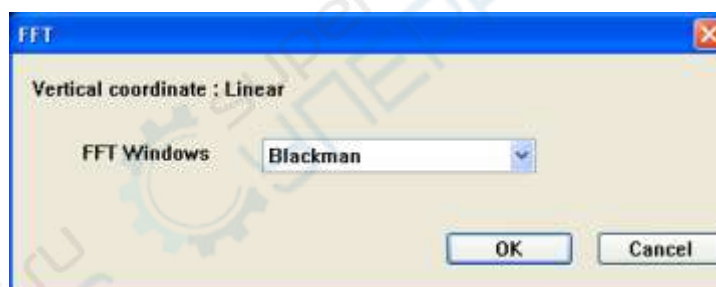

Fig.4-8
FFT: It is used for realizing Fourier transformation for the imported waveform. The window functions for choosing including Blackman, Hamming, Hanning and Rectangle. See Fig.4-8.
- Choose File and Open in order in the menu and choose the waveform file through the correct path. See Fig.4-8.